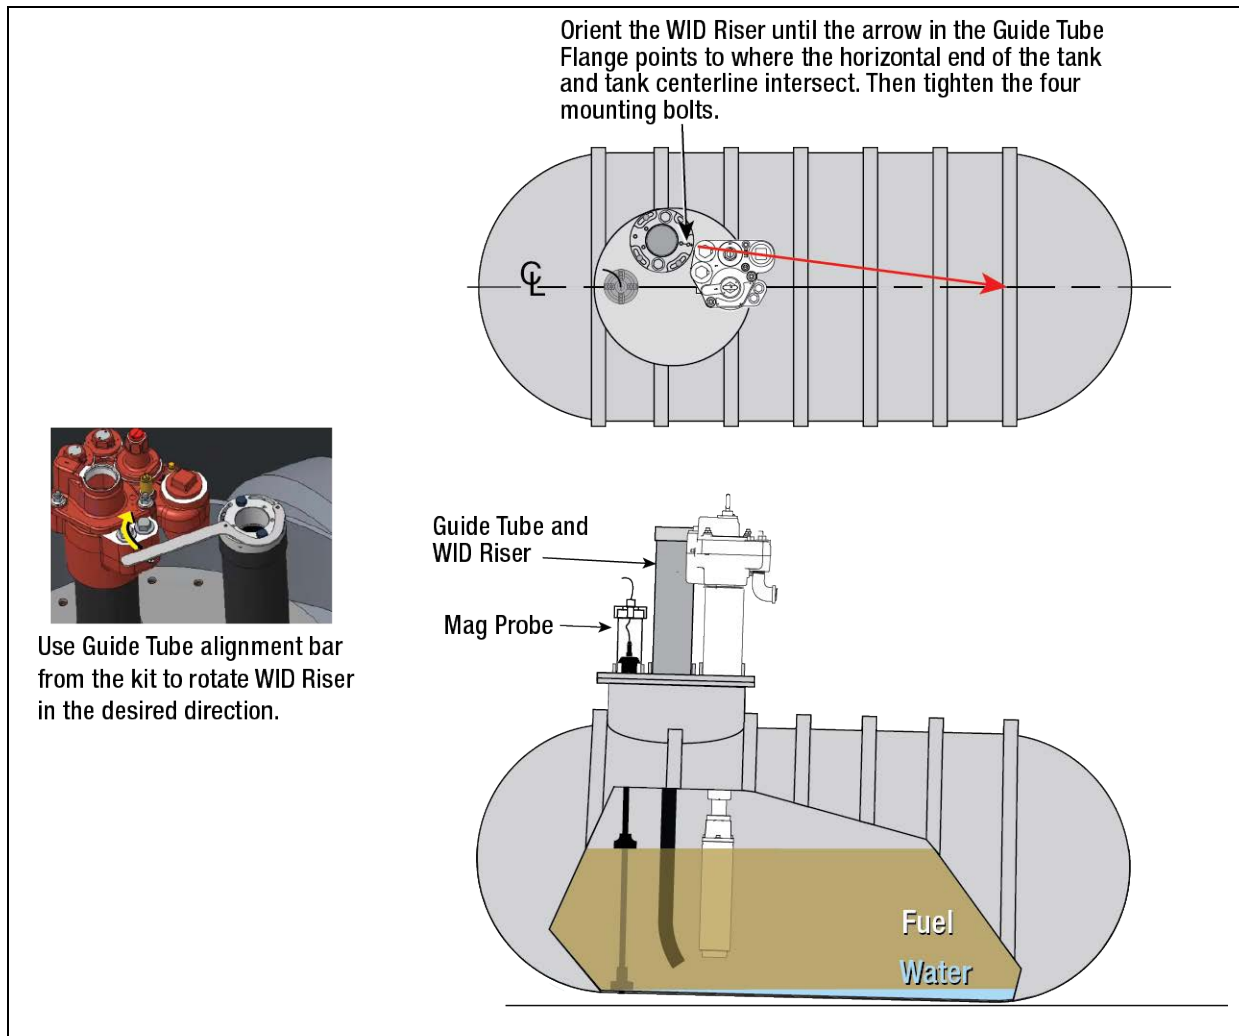
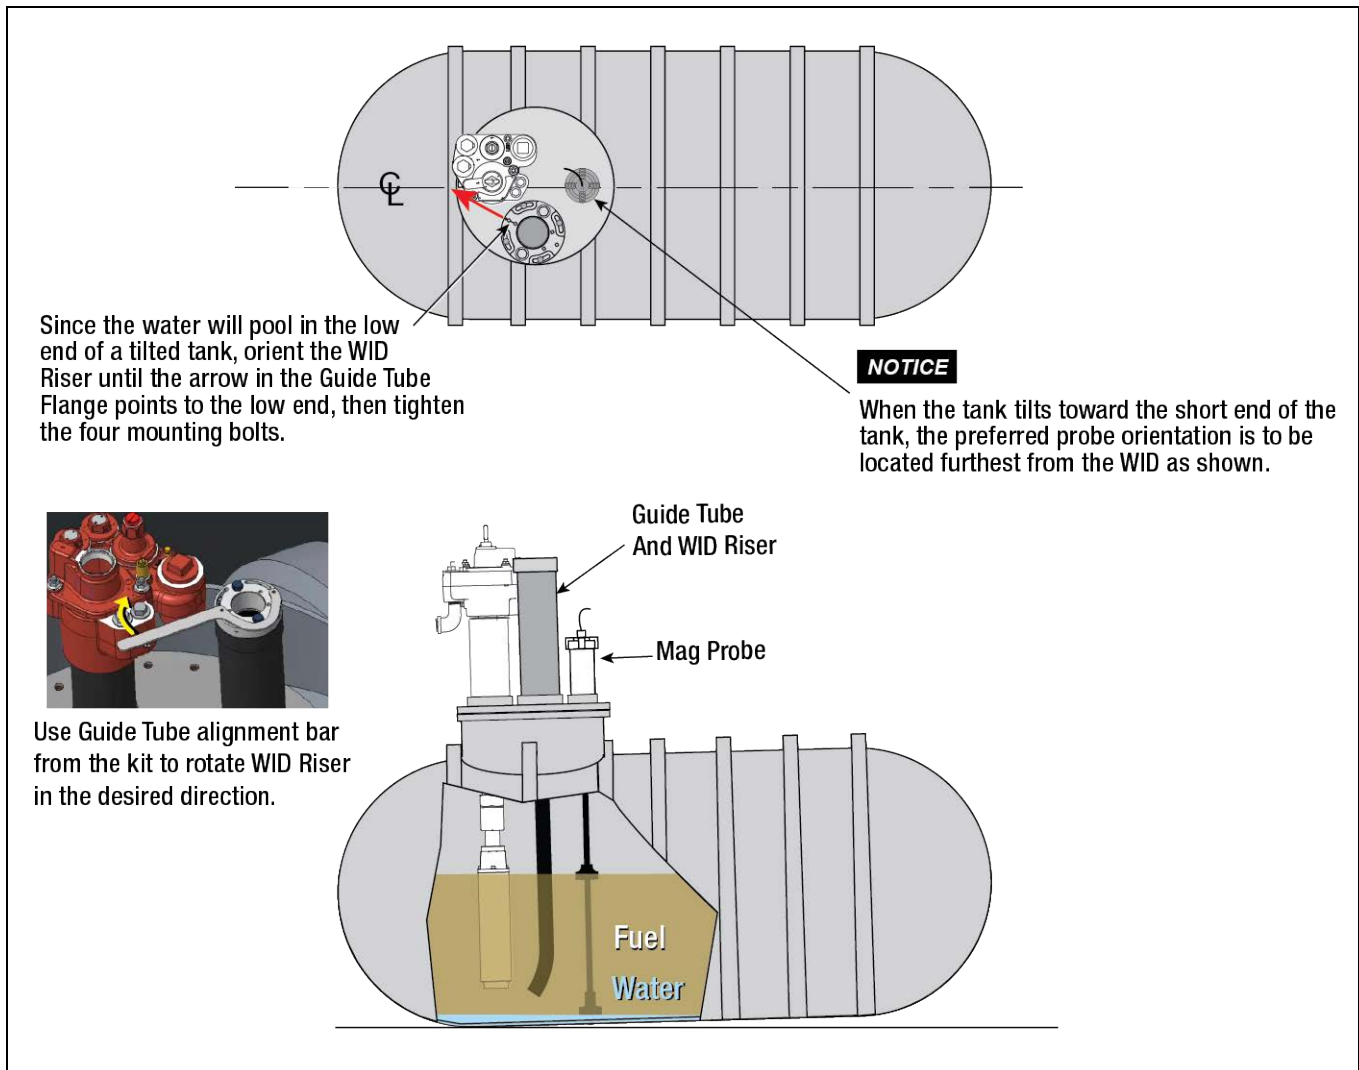

Figure 7. Guide Tube Installation Example - Tank Tilting Away From Manway
Figure 8. Guide Tube Installation Example - Tank Tilting Toward Short End of The Tank
2. Figure 7 shows the preferred location for the WID Riser. Refer to your HydrX Site Inspection Guide to determine the tank tilt. Since the Guide Tube directs the deployment of the Water Intake Device (WID), it must be pointed in the direction of the pooling water. The Guide Tube orientation and WID configuration (1, 3, or 6 tubes) were determined by measurements made in your HydrX Site Inspection Guide.
3. Once the riser is installed, get the Guide Tube assembly and alignment bar from the kit. The Guide Tube is inserted into the riser and sits on the riser flange. Example Guide Tube installations are shown in Figure 7 and Figure 8.